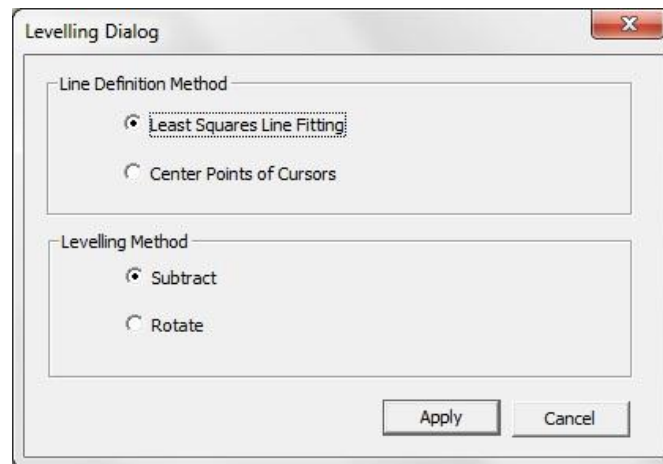

Fig. 67. Leveling dialog box
3. Select *Levelling*. The dialog box shown in Fig. 67 appears.